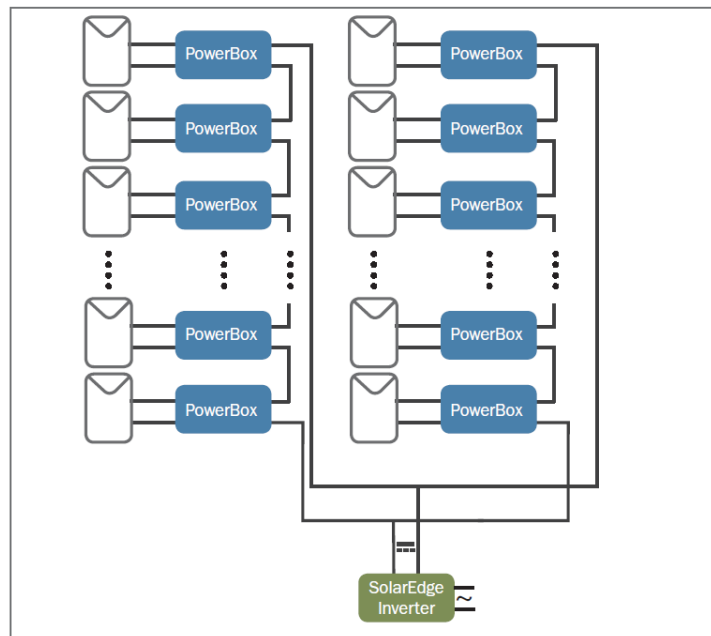

Figure 1 – Basic SolarEdge System Topology
The SolarEdge Distributed Energy Harvesting System is a state-of-the-art system designed to harvest the maximum possible energy from photovoltaic (PV) modules in utility-interactive (grid-tied) PV systems. A SolarEdge PV system, shown in Figure 1 below, consists of three main elements: PV modules, power optimizers (DC to DC converters) located at each module, and a separate DC to AC grid interactive inverter which can be located at the array or at a remote location, e.g. near the main service entrance. Balance of system equipment such as grounding, overcurrent protection, and disconnects are not shown in this diagram.